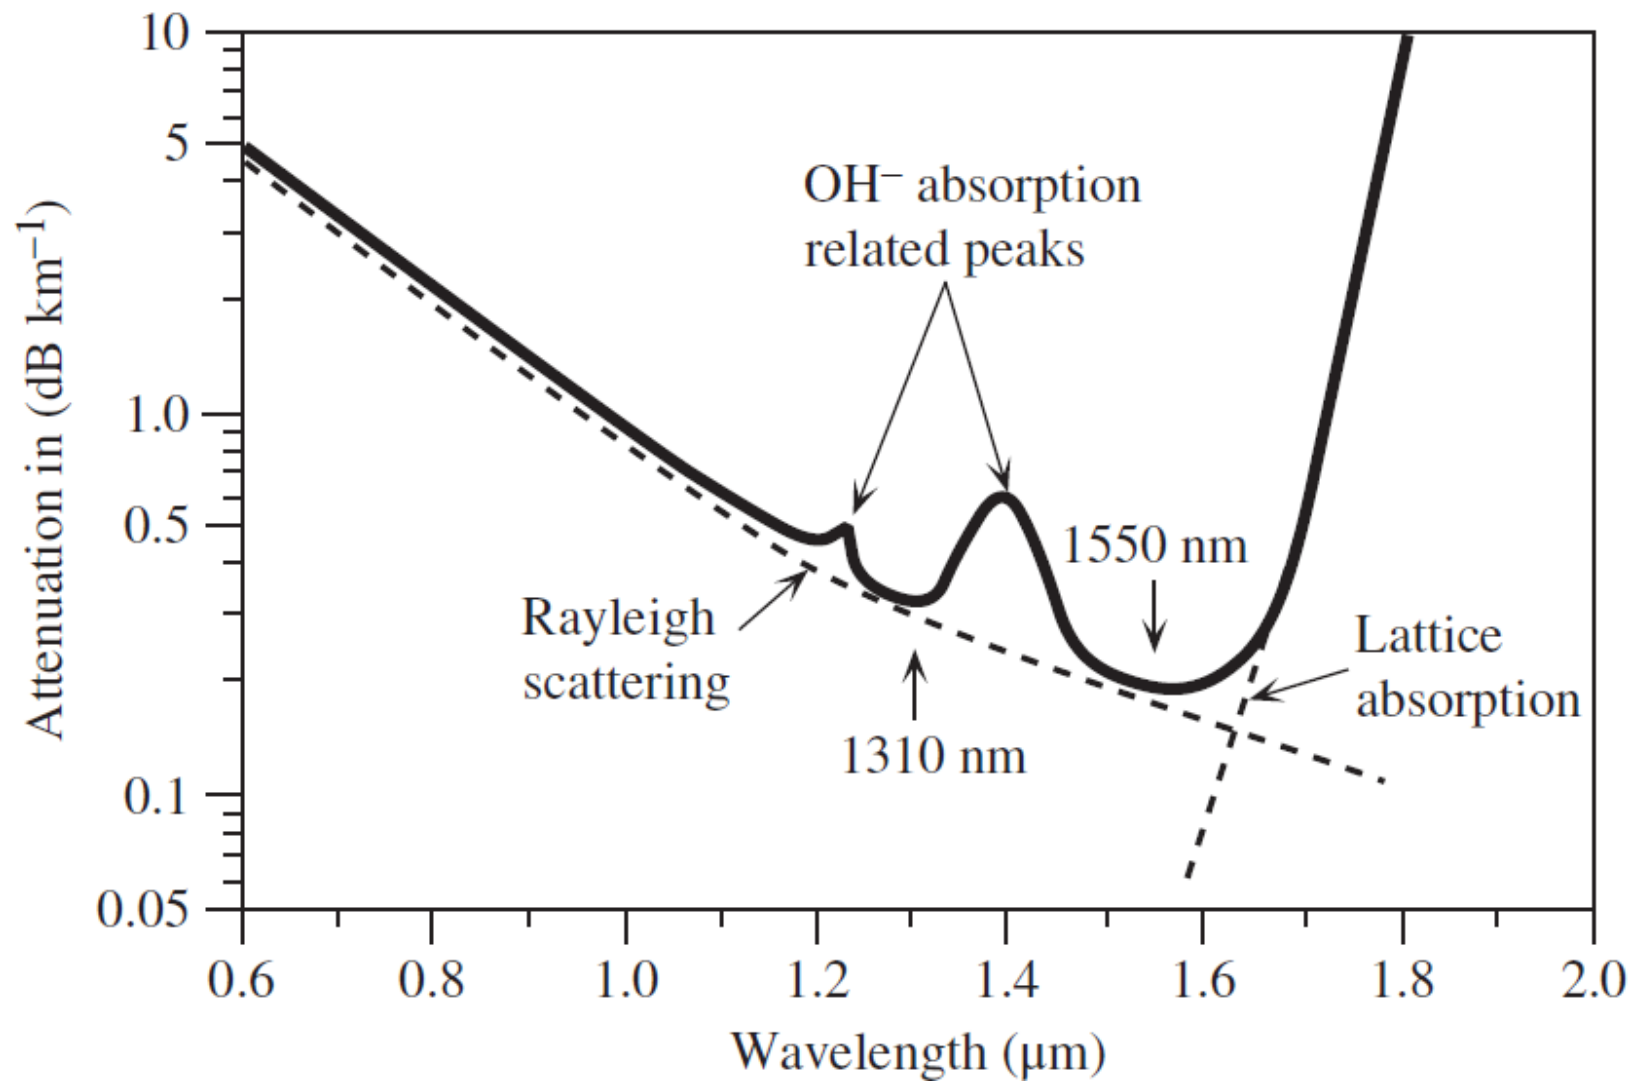

Figure 9.26 Illustration of typical attenuation versus wavelength characteristics of a silica-based optical fiber.
- Figure 9.26 shows the **attenuation coefficient, as dB per km**, of a typical silica-glass-based optical fiber as a function of wavelength.
The first overtone at around 1.4 μm is the most significant as can be seen in Figure 9.26. The second overtone is around 1 μm , and in high-quality fibers this is negligible.